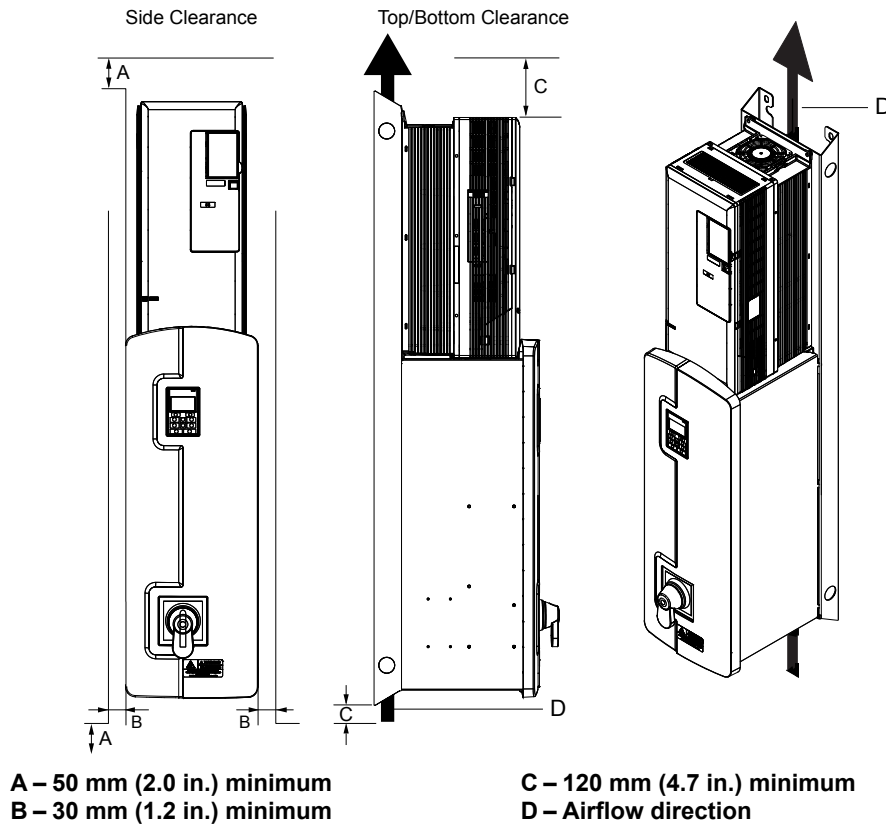

Figure 2.2 Correct Installation Spacing
*Figure 2.2* shows the installation distance required to maintain sufficient space for airflow and wiring. Install the heatsink against a closed surface to avoid diverting cooling air around the heatsink.